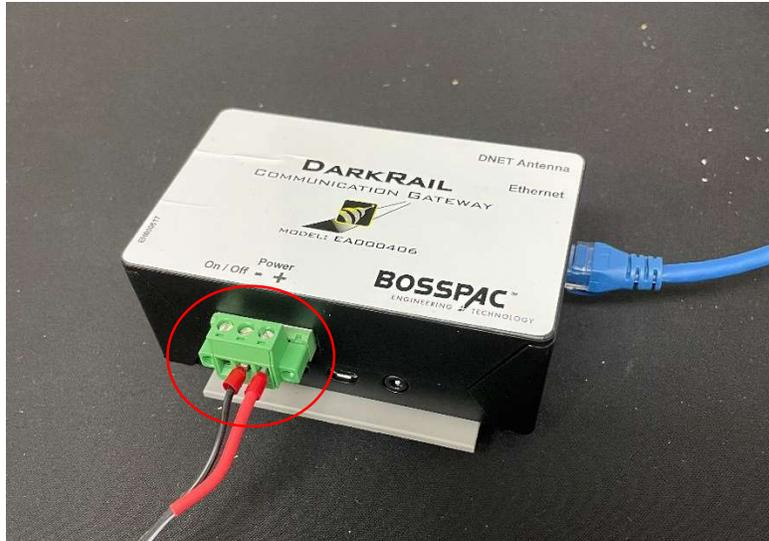

Figure 2
- Connect the Power Supply corresponding wires to Border Router power port (Figure 2)